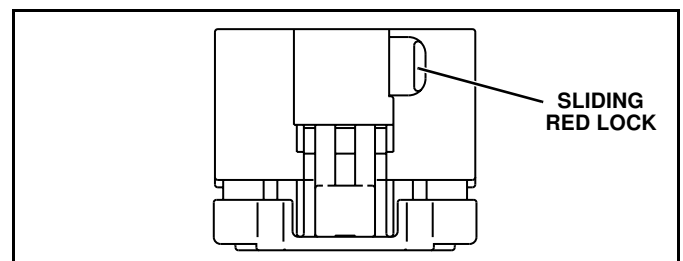

Figure 16
19. Locate the Gray 14 pin female connectors on the EIS harness and plow light harness. Pull out and remove the sliding red lock on top of the connectors. (See Figure 16.) Now the harnesses are ready for installation.